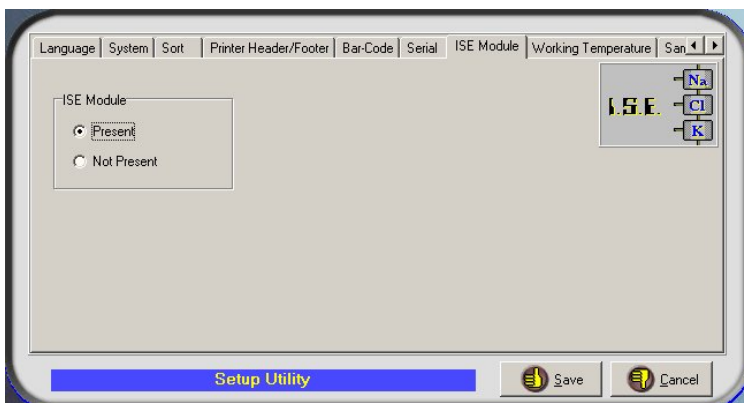

Figure 13
I.S.E. MODULE: Only available in BT3000 Plus, BT3500/BT3500S and BT1500 with I.S.E.. Activates the ISE module (**Figure 13**). Check Present to activate or Not Present to deactivate. When the ISE module is disabled, all relevant menu options will be disabled too or not visible at all.